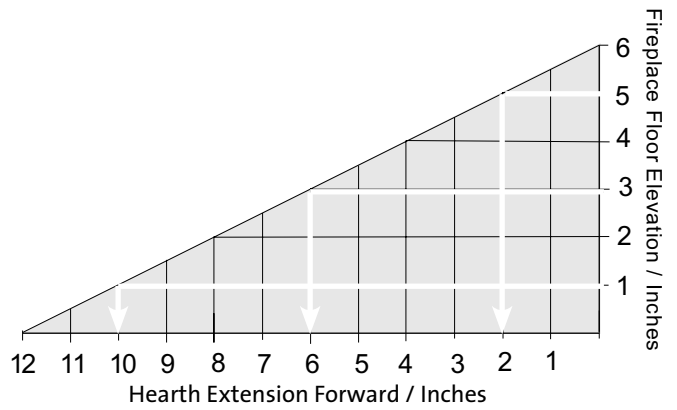

Figure 5. Hearth reduction slope.
**NOTE - Raised Hearth:** Forward hearth protection may be reduced by two inches (5.08 cm) for every inch of fireplace floor elevation. Fig. 5.